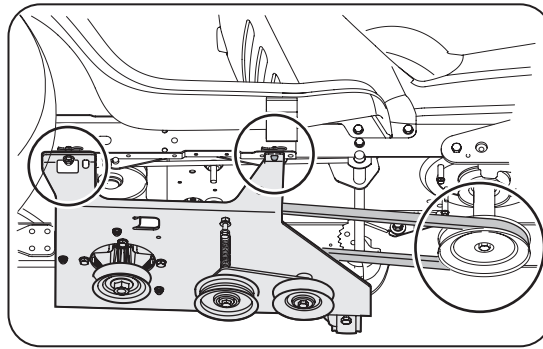
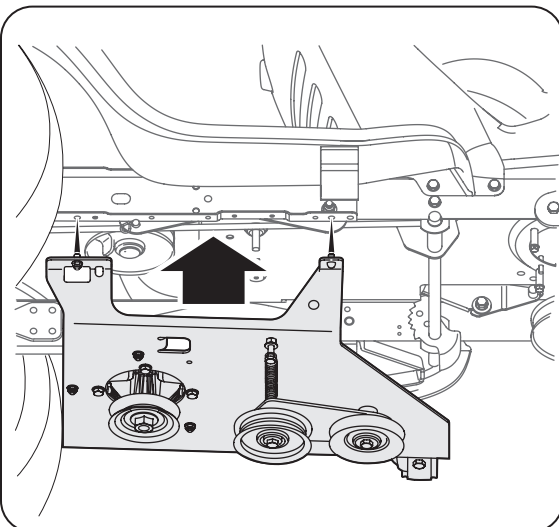

Figure 4-7
Figure 4-6
2. With the undercarriage assembly beneath the tractor, see figure 4-6, lift the undercarriage assembly up against the frame of the tractor. The weldpins on the top of the undercarriage assembly should go through the aligning holes found along the tractor's frame. See Figure 4-7.
4. Route the upper drive belt around the engine pulley. See Figure 4-7.